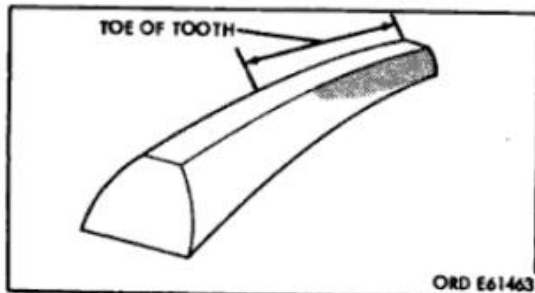

Figure 103. Short toe contact
- (3) **Short toe contact.** Gear contact too heavy on toe of tooth (fig. 103) will result in chipping, excessive wear, and noise. To correct condition add shims at (E) and remove an equal thickness of shims at (A) to move bevel gear away from pinion and maintain bearing preload. Add sufficient shims at (B) to maintain backlash of 0.006-to-0.012 inch.